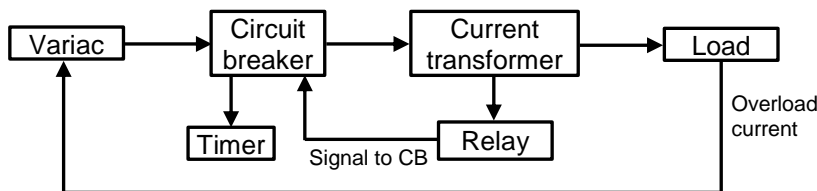

Figure 1: Block diagram of the experimental setup
Figure 1 shows a block diagram of the experimental setup for the relay to be tested. When an overload current flows through the circuit breaker (CB), the relay and timer will be activated. The relay will send a signal to the CB to trip (open) the circuit.